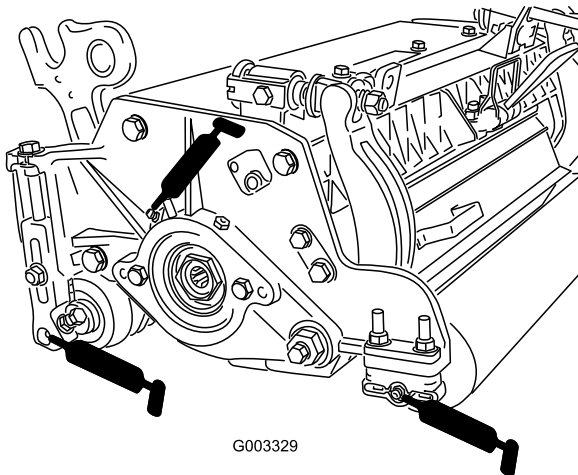

Figure 19
Each cutting unit has (6) grease fittings (Figure 19) that must be lubricated regularly with No. 2 General Purpose Lithium Base Grease.